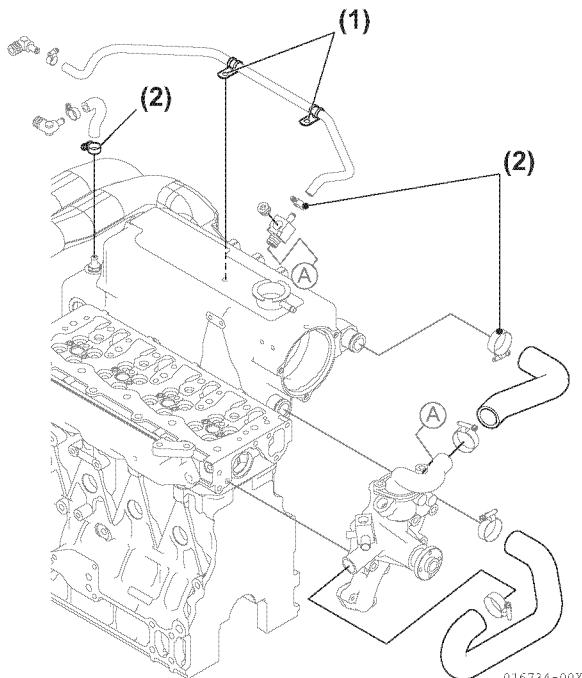

Figure 7-25
9. Install the heat exchanger assembly on the engine. Install and tighten bolts and clamps (Figure 7-25, (1), (2)).